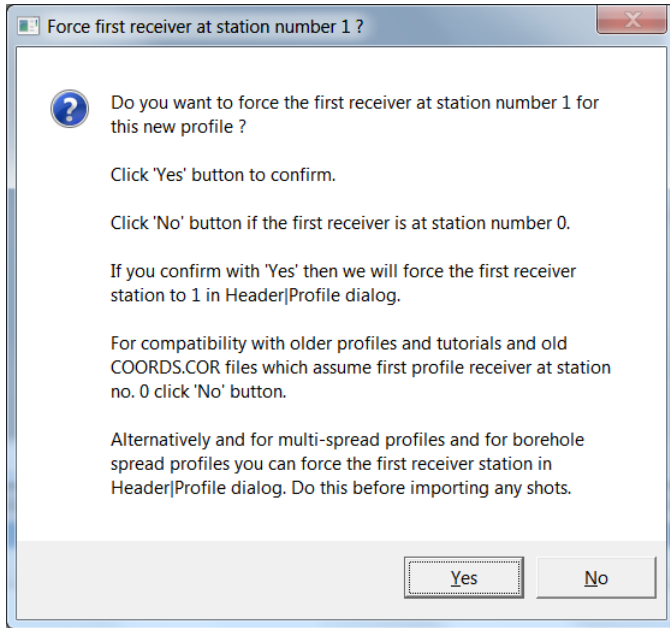

Fig. 23 : click No button to leave **Profile start and first receiver station** at station no. 0.
- in the prompt (Fig. 23) click **No** button to leave **Profile start** and first receiver at station no. 0.